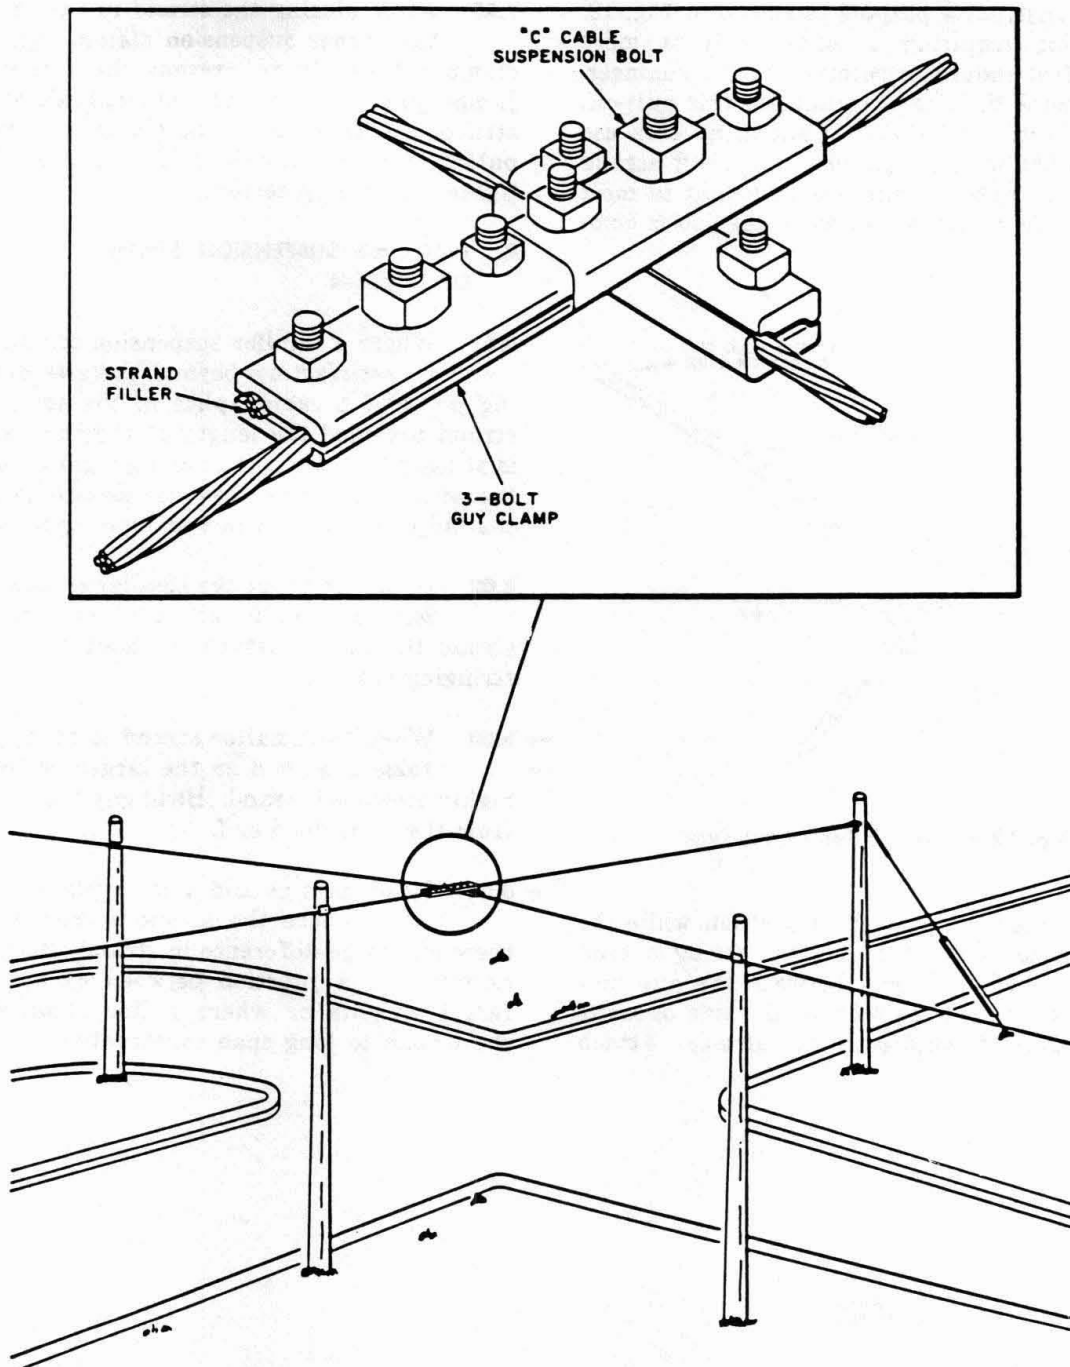

Fig. 11 — Crossover Arrangement with Corner not Exceeding a 7-Foot Pull
7.02 It is desirable to avoid corners at strand crossovers. However, if a corner is necessary, and the *pull does not exceed 7 feet*, the corner may be constructed using the same method as for straight crossovers *except* that a 3-bolt *guy clamp*, with a strand filler, must be placed on the line strand as shown in Fig. 11. This guy clamp placed inside the corner will reinforce the cable suspension clamp and keep it from sliding on the strand. A situation at a crossover that would require a corner with more than a 7-foot pull should be referred to the engineer.